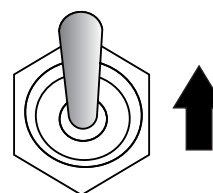

Figure 40. Control Power Switch (ON)
3. Place the **control power switch** (Figure 40) on the control panel in the **ON** position (UP) and allow the controller to boot up.